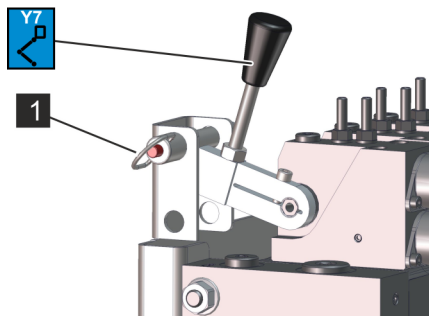

Fig. 184: Locking pin
5. → Lock the valve (Fig. 184/Y7) with the locking pin (Fig. 184/1).